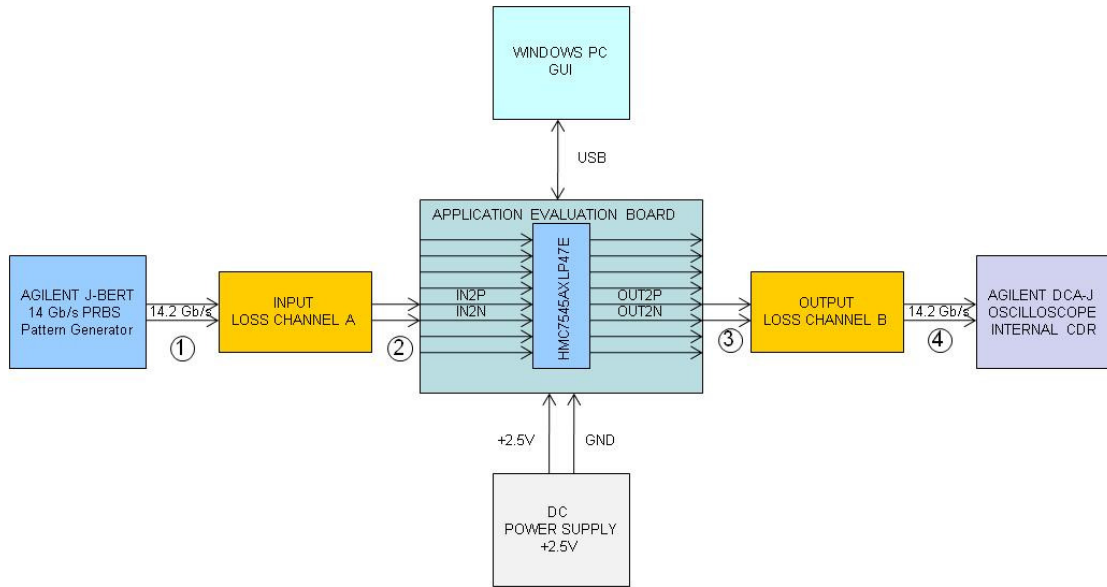

Figure 15. HMC7545AxLP47 Lossy Channel Block Diagram
The reference points, as described, below, are given in the block diagram in Figure 15. Note that in addition to the external load board loss, there is approximately -1dB loss for each of four input and four output differential channels on the EVB. This is due to the on-PCB transmission lines, as shown in Figure 3.
Figure 19. 12.0 Gb/s PRBS 2⁹-1. HMC7545ABLP47 EVB with 10” Load Board Lossy Channel at Output Using 4-Channel Signal Conditioner De-Emphasis (DE), as Indicated by Point 4 in Figure 15.